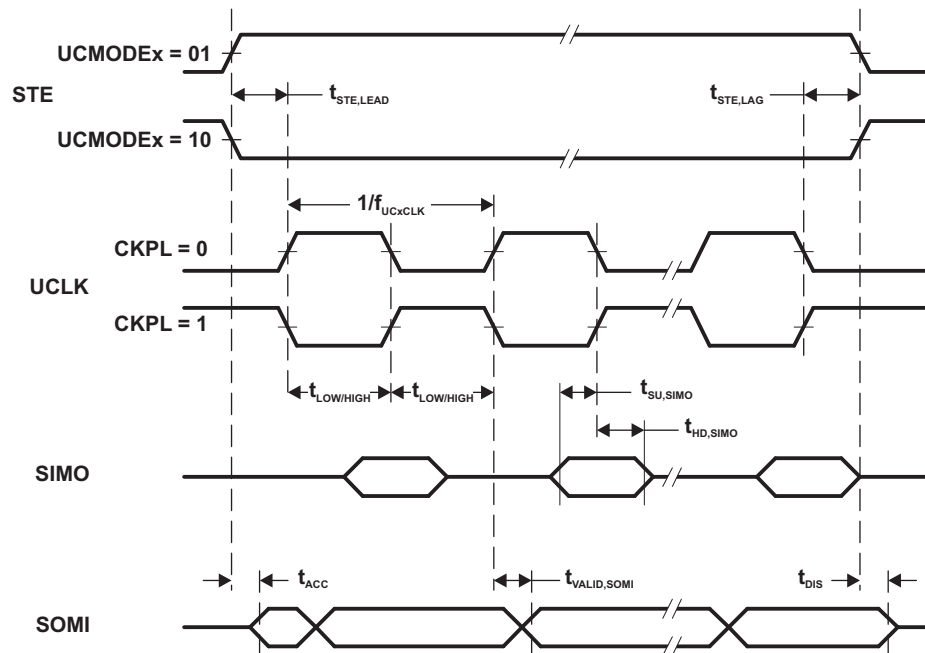
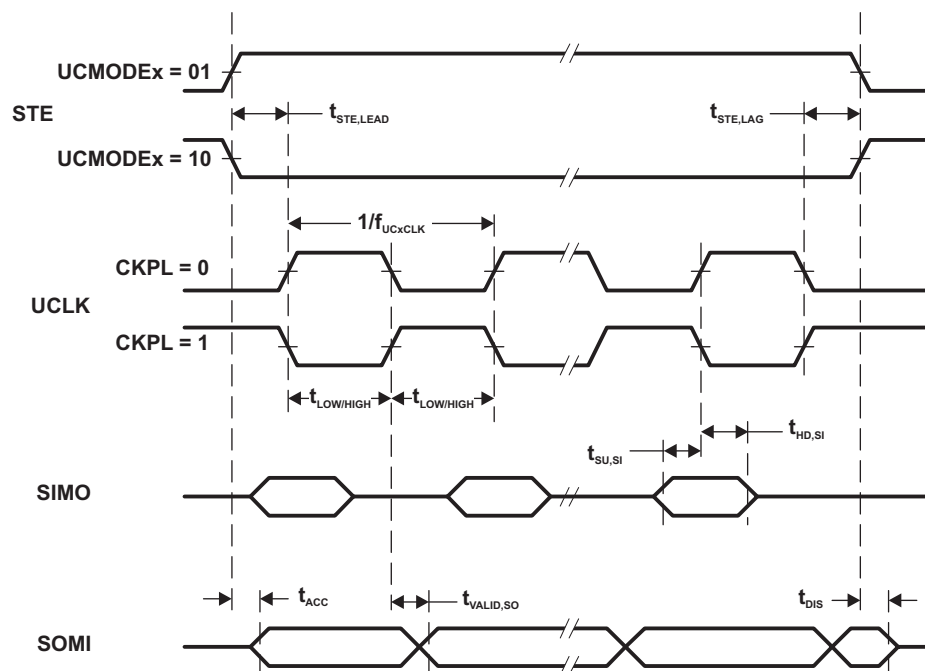

Figure 14. SPI Slave Mode, CKPH = 0
Figure 15. SPI Slave Mode, CKPH = 1
- (1) $f_{UCxCLK} = 1/2t_{LO/HI}$ with $t_{LO/HI} \geq \max(t_{VALID,MO}(\text{Master}) + t_{SU,SI}(\text{eUSCI}), t_{SU,MI}(\text{Master}) + t_{VALID,SO}(\text{eUSCI}))$. For the master's parameters $t_{SU,MI}(\text{Master})$ and $t_{VALID,MO}(\text{Master})$ refer to the SPI parameters of the attached slave.
- (2) Specifies the time to drive the next valid data to the SOMI output after the output changing UCLK clock edge. See the timing diagrams in Figure 14 and Figure 15.
- (3) Specifies how long data on the SOMI output is valid after the output changing UCLK clock edge. See the timing diagrams in Figure 14 and Figure 15.